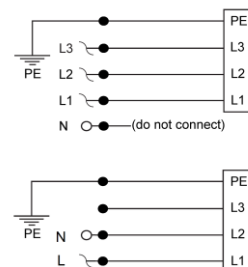

fig 4 -2
- For a single-phase grid, connect Null and Line between L1 and L2, see fig. 4 - 2.
- These terminals are located at the rear side, marked as CON B1 (PLUS) and CON B2 (MINUS), see fig. 4 - 1.